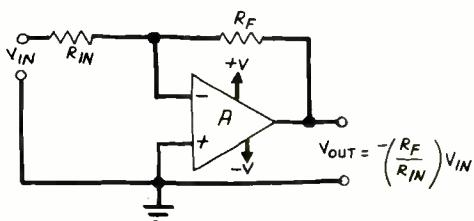

Fig. 1. An inverting operational amplifier.
**The Operational Amplifier.** Figure 1 shows a straightforward inverting amplifier built around a standard operational amplifier. The voltage gain of this circuit is the quotient of the value of the feedback resistor ( $R_F$ ) divided by the value of the input resistor ( $R_{IN}$ ).
work works, let's assume that it's connected as the input resistance in a straightforward inverting amplifier like the one shown in Fig. 1. If  $R_F$  is made equal to  $R$ , then the amplifier will have switch-programmable gains ranging from -1 to -7 in equally spaced increments.